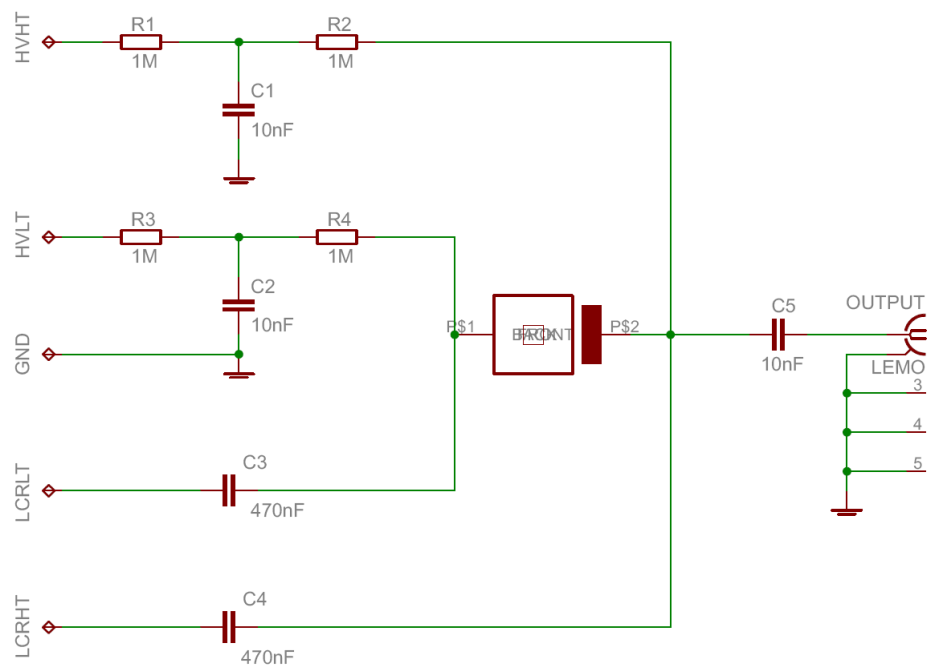
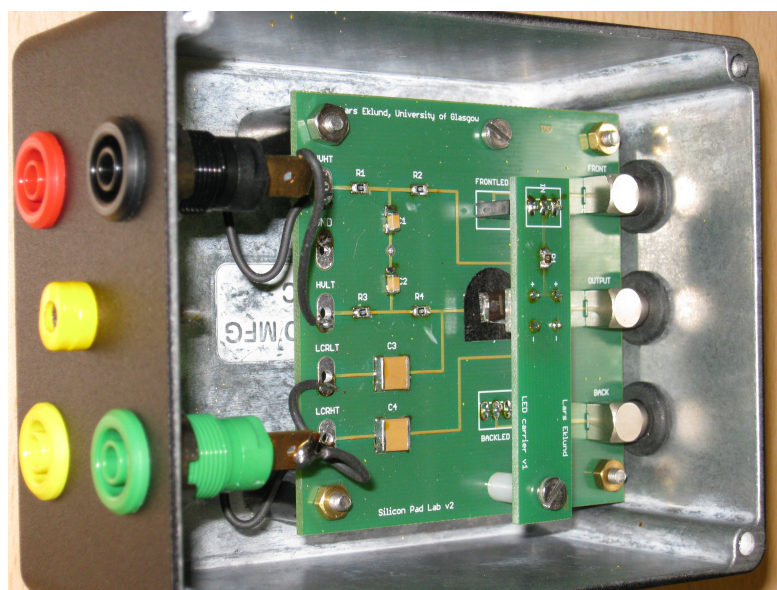

Figure 2: Schematic of the circuit in the black test box.
Figure 3: Photo showing the content of the test boxes.
Test box: A box containing the pad sensor mounted on a PCB with the necessary passive components has been developed for this lab. The schematic of the circuit is shown in Figure 2. It has a Low Pass (LP) filter at the input of the HV supply (R1, R3, C1, C2) and AC coupling capacitors to screen the LCR meter and the preamplifier from the high voltage (C3, C4, C5). The box also contains two LED used to generate signals in the pad detectors. They are mounted at the top and bottom of the sensor, to make it possible to illuminate from both the back and the front of the sensor. The wavelength of the light emitted from the LEDs is 624 nm, which gives a penetration depth of approximately 10 μm . Figure 3 shows the content of the test box.